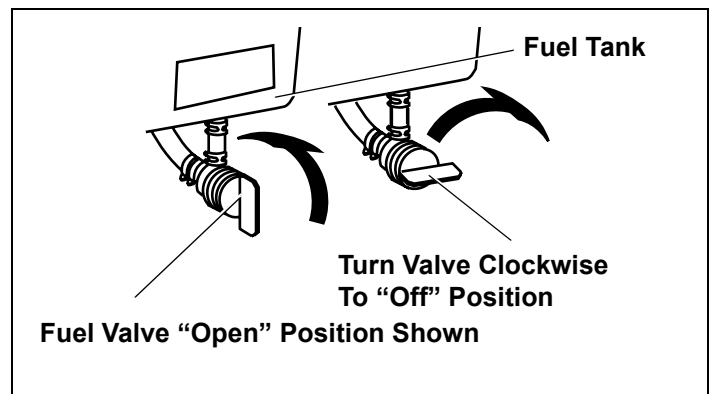

Figure 18. Optional Fuel Valve Positions
2. Be sure fuel valve (optional) is open and all switches are on. See Figure 18.